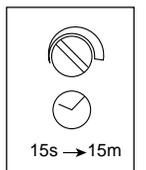

fig 15
- TIME - turn fully anticlockwise to min. (see fig 15)